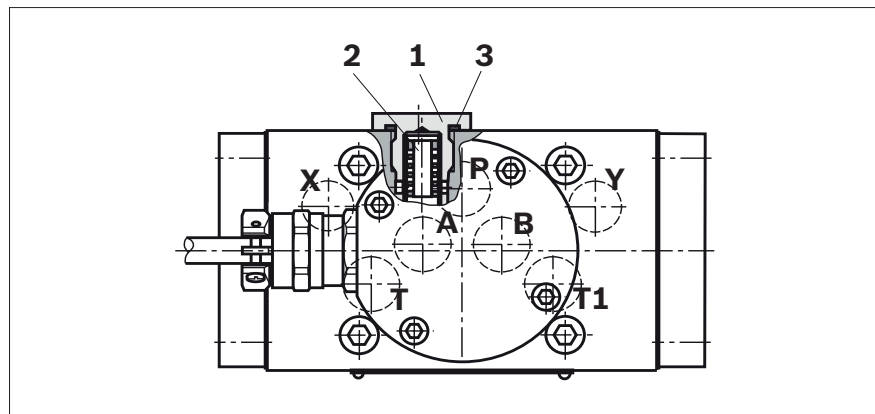

Fig. 2: Filter element
Exchangeable filter element with FKM seal and FKM profile seal item (3) in fig. 2 for filter screw M16x1	R961001950